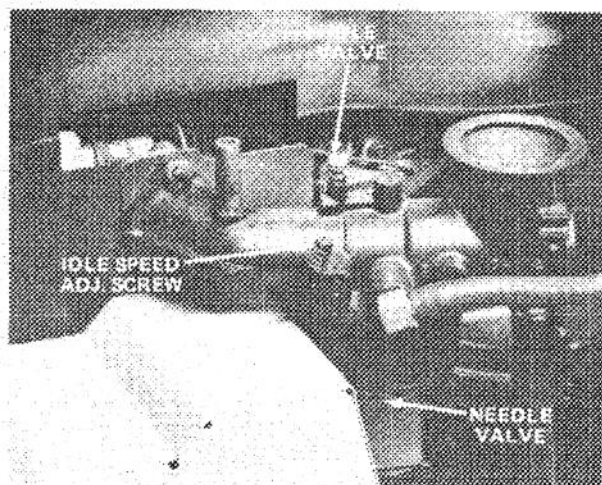

Figure 22
1. Needle Valve (Fig. 22) — Close valve by gently rotating it clockwise.
2. Rotate — open — the needle valve 2 turns counterclockwise (Fig. 22).
4. Rotate needle valve (Fig. 22) clockwise, 1/8 turn at a time, until engine starts to lose speed. Let engine react to each 1/8 turn setting.
5. Rotate needle valve (Fig. 22) counterclockwise — out — 1/8 turn at a time, until engine first runs rough. Let engine react to each 1/8 turn setting.
6. Rotate needle valve (Fig. 22) clockwise — in — very slowly until engine starts to run smoothly. This setting, under no load, may be slightly rich; however, the slightly rich setting will assure proper operation when engine is under load.